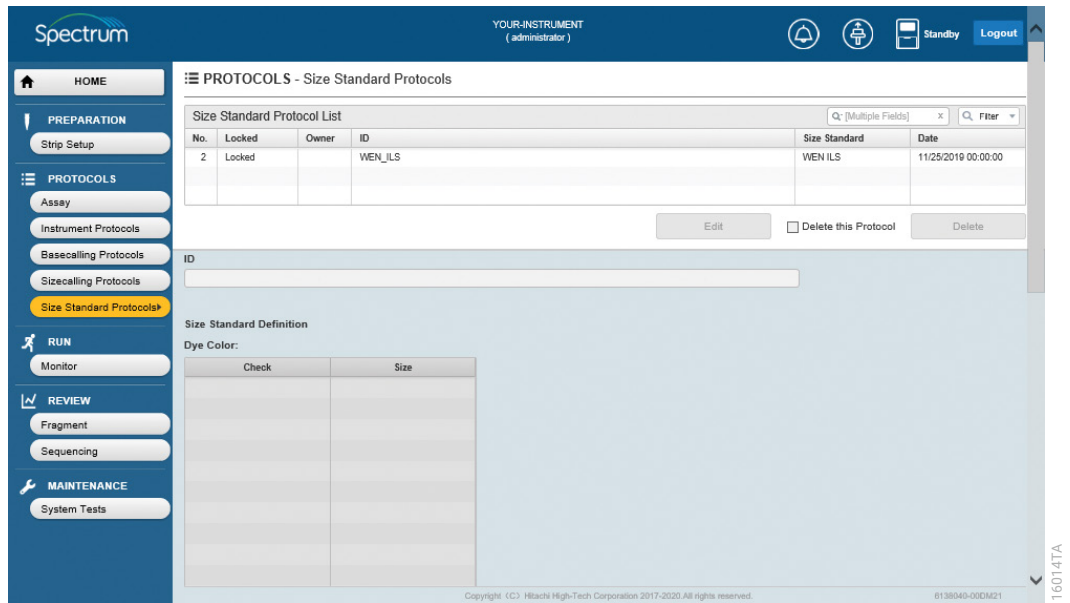

Figure 66. Searched and filtered size standard protocols.
6. The size standard protocols that meet the desired search and filter parameters will be displayed at the top of the Size Standard Protocol List (Figure 66).